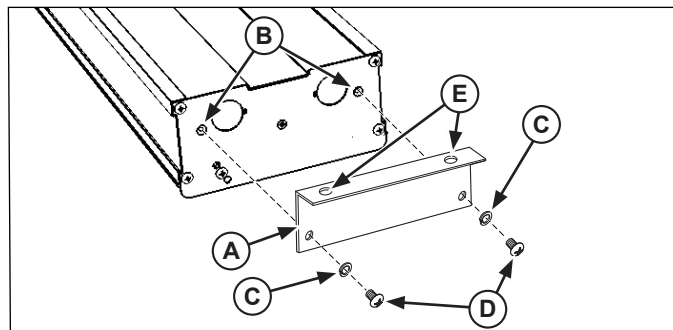

Figure 2. Installing Top Mount Brackets.
2. Secure the top mount bracket (A) to the mounting holes (B) using lockwashers (C) and screws (D). Repeat on the other end. See Figure 2.